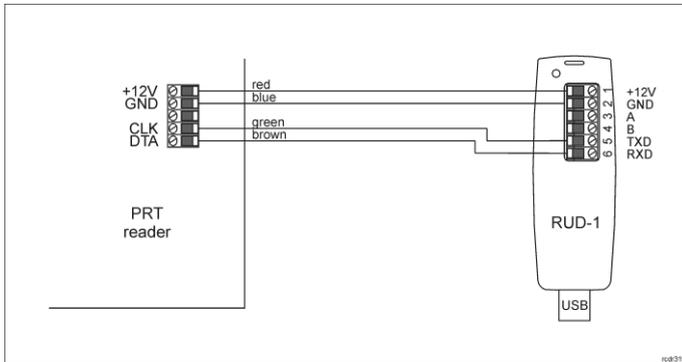

Fig. 1 Connection of reader to RUD-1 interface
1. Connect the reader to RUD-1 interface (fig. 1) and connect the RUD-1 to computer's USB port.